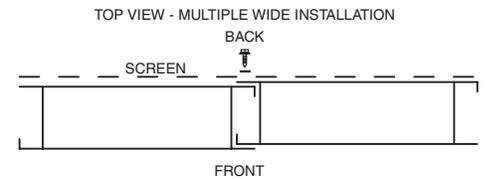

Figure 1
- Slide "c" channel flange behind flat flange as shown in Figure 1.
- Replace birdscreen and re-fasten through the birdscreen and the flanges of both units as per Figure 1.